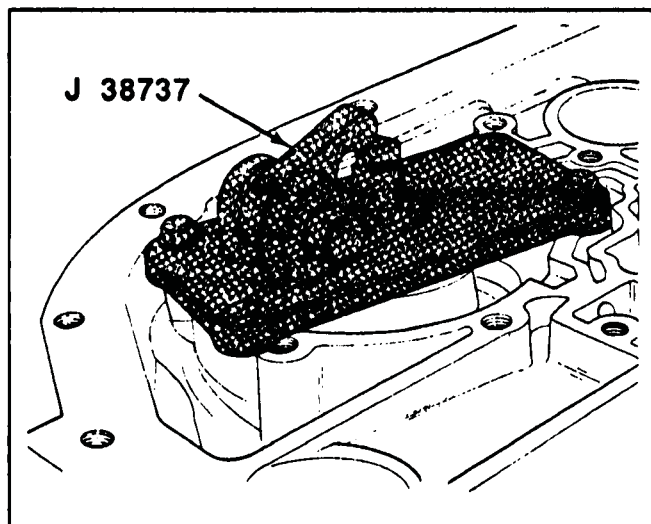

Figure 113
2. Position J-38737 tool over the gage pin and servo bore, with the hex nut facing the parking linkage, as shown in Figure 113.
3. Fasten the tool with two servo cover bolts, as shown in Figure 113.